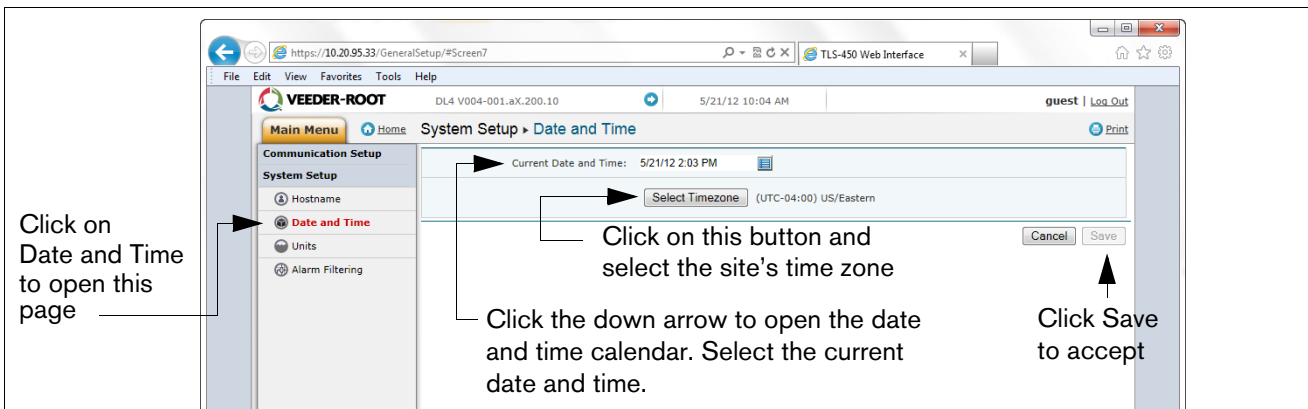

Figure B-11. Entering Date and Time
13. From the System Setup menu, select Date and Time link to access the current date/time entry screen (see example in Figure B-11).